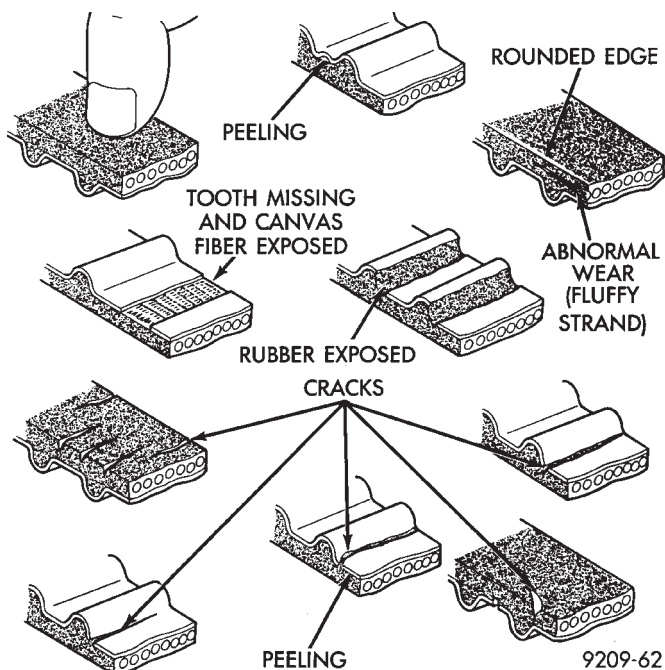

Fig. 121 Timing Belt Inspection
• Abnormal wear of belt sides. The sides are normal if they are sharp as if cut by a knife (Fig. 121).
(4) If none of the above conditions are seen on the belt, the belt cover can be installed.